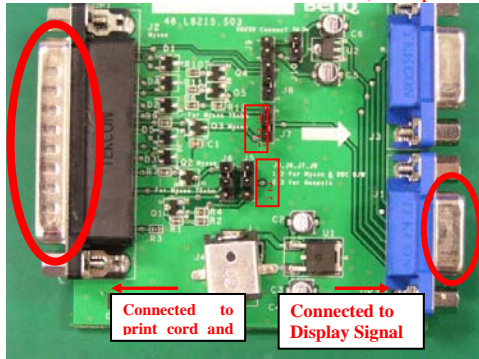

Fig.1
4. ISP board as shown in Fig. 1